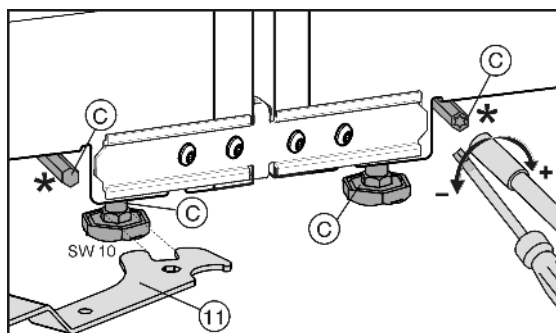

Fig. 8
You can adjust the front height-adjustable feet with the open-ended spanner *Fig. 8 (11)* included in the supply package, and the rear height-adjustable feet* with a Torx® 25 screwdriver.